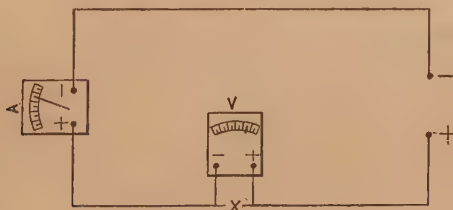

FIG. 16.
**Problem 41.** The arc lamp, Fig. 16, has a hot resistance of 216 ohms. The voltmeter ( $V$ ) reads 112 volts. How much will the ammeter ( $A$ ) read?